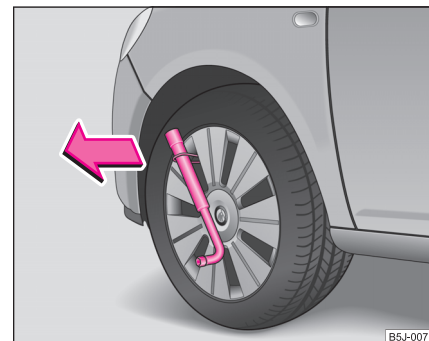

Fig. 156 Removing the full wheel trim
- Push the wheel key through the clamp, support the wheel key on the tyre and pull off the wheel trim ⇒ fig. 156.